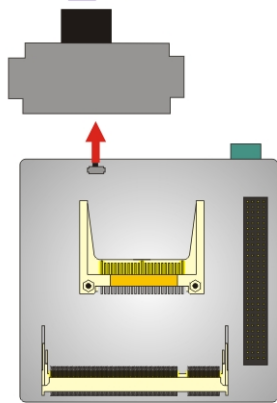

Figure 4-5: CompactFlash® Setup Jumper Location
- Jumper Location:** See Figure 4-5